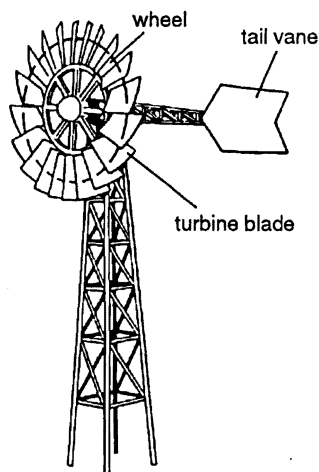

Fig. 2
- 3 Multi-bladed low-speed wind turbines (windmills) similar to the one shown in Fig. 2 have been used since 1870, particularly for pumping water on farms.